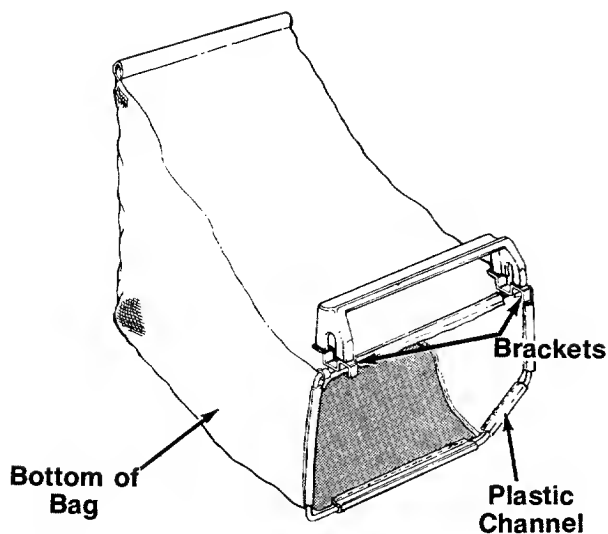

FIGURE 14.
1. Place bag over frame (black plastic side is the bottom of bag). Handle on frame goes to the top of bag. Brackets hook toward the front. See figure 14.
2. Secure bag to frame by slipping plastic channels on bag over frame. See figure 14.